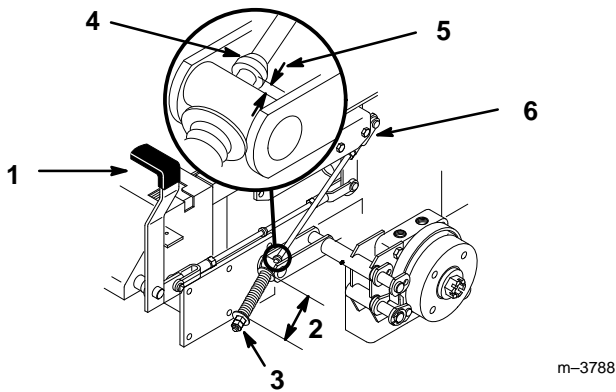

Figure 32
2. Measure the length of the spring. Measurement should be 2.9" (74 mm) between washers (Fig. 32).
3. If adjustment is necessary, loosen the jam nut below the spring and tighten the nut directly below the yoke (Fig. 32). Turn the nut until the correct measurement is obtained. Tighten the two nuts together and repeat on opposite side of unit.
6. Measure the distance between the trunnion roller and the collar on brake rod . Measurement should be 3/16"-1/4" (5-7 mm) (Fig. 32).
7. If adjustment is necessary, loosen the jam nut directly below the yoke. Turn the bottom rod until the correct measurement is obtained (Fig. 32). Tighten jam nut at yoke